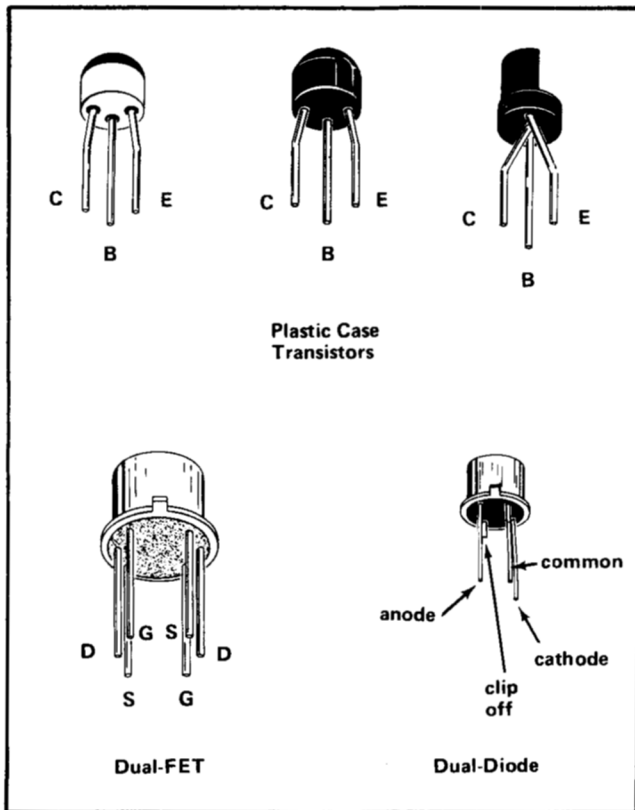

Fig. 4-1. Electrode configuration for semiconductors in the 7A15A/7A15AN.
Semiconductor Lead Configuration. Fig. 4-1 shows the lead configurations of the semiconductor devices used in this instrument.
A. TRANSISTORS. The best check of transistor operation is actual performance under operating conditions. If a transistor is suspected of being defective, it can best be checked by substituting a component known to be good; however, be sure that circuit conditions are not such that a replacement might also be damaged. If substitute transistors are not available, use a dynamic tester (such as Tektronix Type 576). Static-type testers may be used, but since they do not check operation under simulated operating conditions, some defects may go unnoticed. Fig. 4-1 shows base pin and socket arrangements of semiconductor devices. Be sure the power is off before attempting to remove or replace any transistor.
Replacement semiconductors should be of the original type or a direct replacement. Fig. 4-1 shows the lead configurations of the semiconductors used in this instrument. If the replacement semiconductor is not of the original type, check the manufacturer's basing diagram for proper basing.